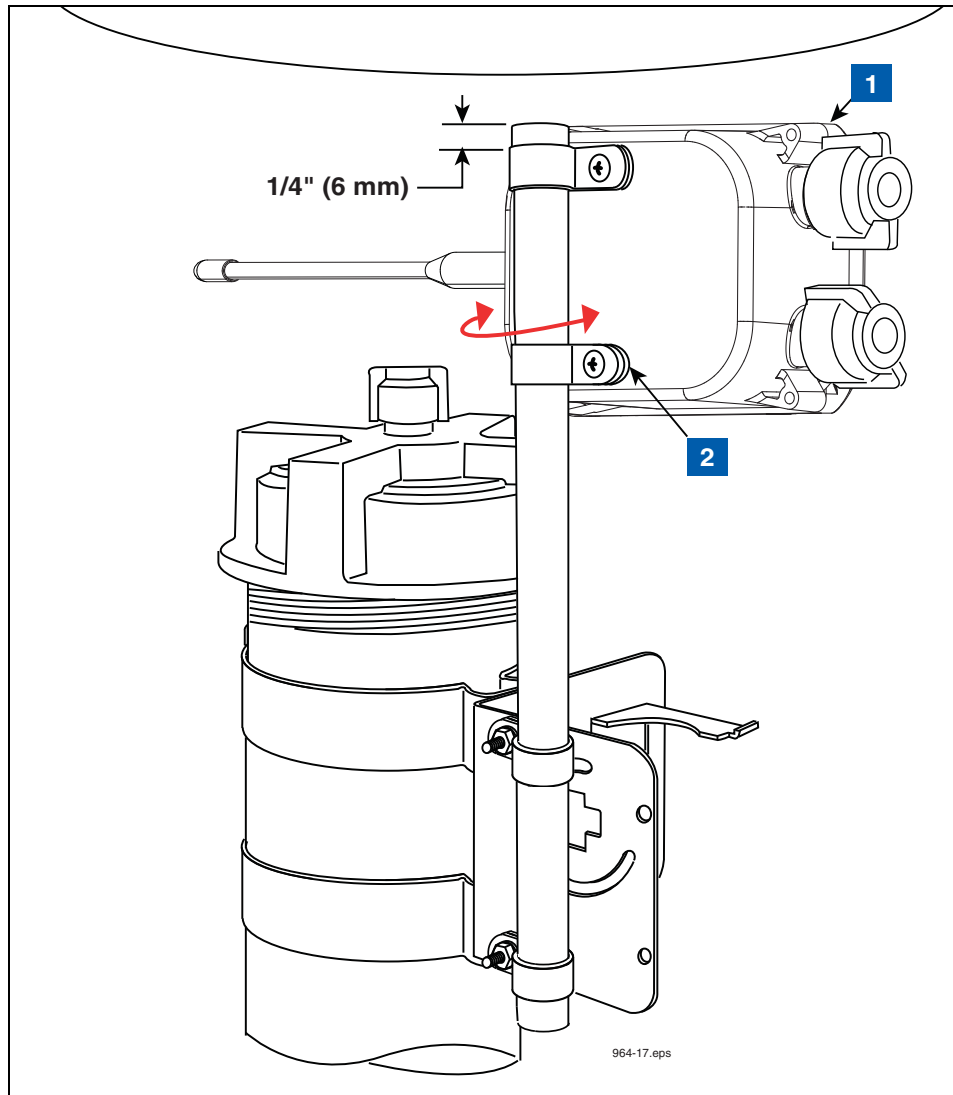

Figure 17. Installing Transmitter Onto Support Conduit
5. Loosen the clamps on the back of the Transmitter and slide the two clamps down over the conduit as shown in Figure 17. Position the Transmitter until the top clamp is about 1/4" below the top of the conduit and tighten the clamps just enough to keep the Transmitter from sliding down.
**LEGEND FOR NUMBERED BOXES IN Figure 17**